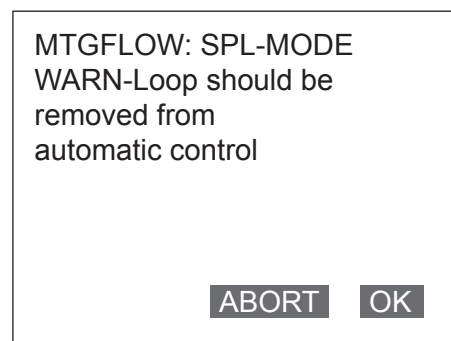

Fig. 7-68.
2. Once the display as shown in Fig. 7-68. appears, move the arrow key up or down to select an excitation current to adjust, and then press F4 (ENTER). This time, select 3.5 mA.